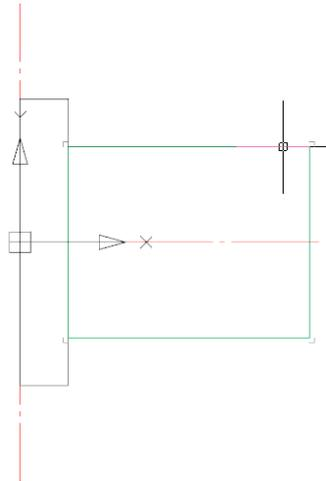

Fig. 4. Shaft with two sections
1.4. After that, the command for drawing shaft sections will be resumed. The origin point of the next shaft section is the end point of the previous section. Draw the second section of the shaft. Enter 40 and 50 in the **Diameter** and **Length** text boxes. Confirm by clicking **Next**. The result is shown in Fig. 4.